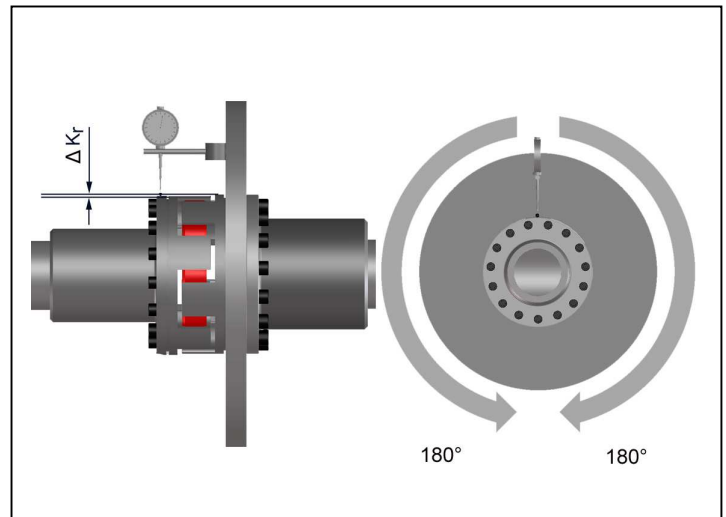

Fig. 10
- Measure one complete revolution (360°). Determine the largest deviation  $K_{r1}$  and the smallest deviation  $K_{r2}$  (Fig 10). Calculate the radial misalignment